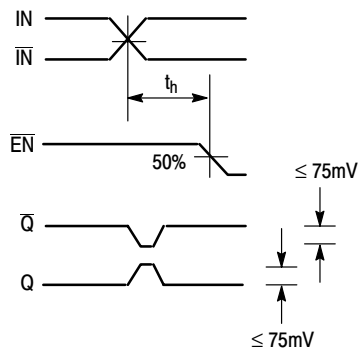

Figure 4. Hold Time
19. The hold time is the minimum time that \overline{EN} must remain asserted after a negative going IN or a positive going \overline{IN} to prevent an output response greater than $\pm 75\text{ mV}$ to that IN/ \overline{IN} transition (see Figure 4).